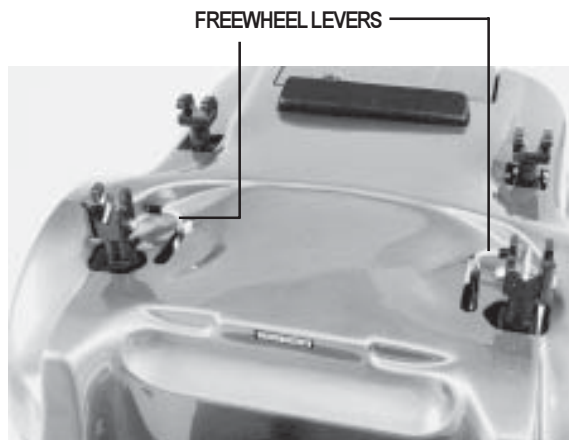

Figure 6. Drive Disengaged
For your convenience, your Jazzy 1120 is equipped with two freewheel levers. See figures 6 and 7. These levers allow you to disengage the drive motors and maneuver the chair manually.
1. Turn the freewheel levers outward to disengage the drive motors. See figure 6.